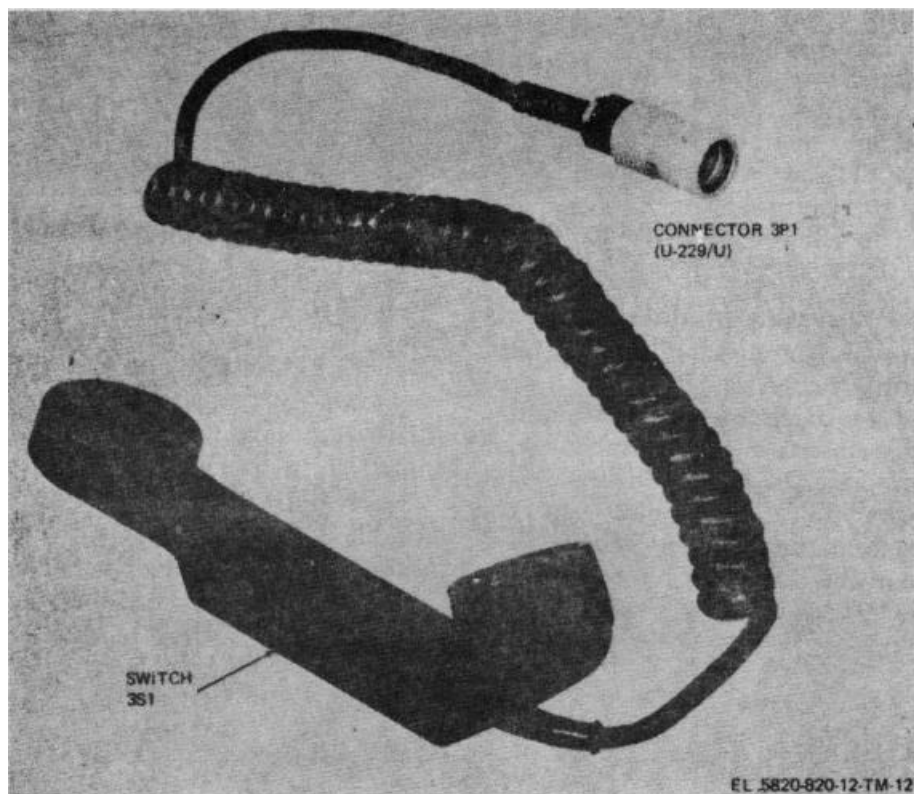

Figure 1-4. Handset H-189/GR.
c. *Handset H-189/GR.* Handset H-189/GR (handset) (figure 1-4) is a lightweight, waterproof unit with a 24-inch retractable cord that will extend to over 6 feet. The cord is terminated in a 5-pin connector type U-229/U. Refer to TM 11-5965-280-15 for a complete description of this unit.